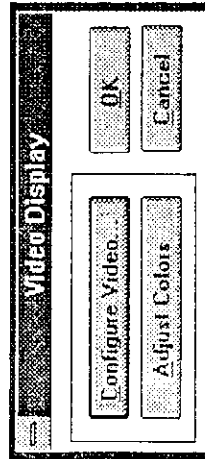

Figure 3-21.
3. To configure video or adjust colors, CLICK on " Video Display" under Options (see Figure 3-21).